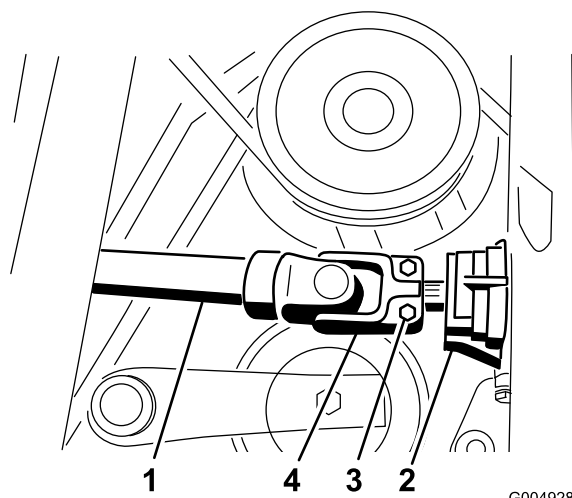

Figure 52
2. Remove the roll pin and pull the drive shaft off the gearbox shaft (Figure 52).